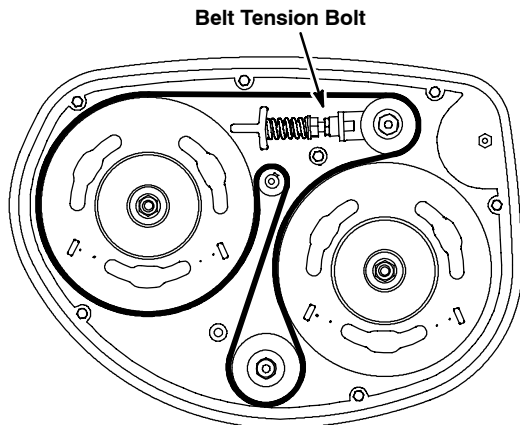

FIG. 71
1. To replace the belt, completely loosen the belt tension bolt and install the new belt as shown (Figure 71). Match the groove side of the belt to the grooved pulleys.